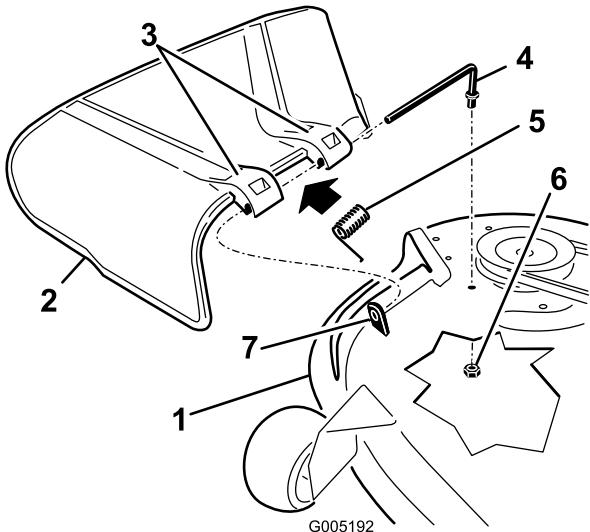

Figure 63
1. Locate items shown in Figure 63.
2. Remove the nut (3/8 inch) from the rod under the mower (Figure 63).
3. Slide the rod out of the short stand-off, spring, and grass deflector (Figure 63). Remove the damaged or worn grass deflector.
4. Replace the grass deflector (Figure 63).
6. Place the spring on the rod, with end wires down, and between the grass deflector brackets. Slide rod through second grass deflector bracket (Figure 63).
7. Insert rod at front of grass deflector into short stand-off on deck. Secure rear end of rod into the mower with a nut (3/8 inch) (Figure 63).